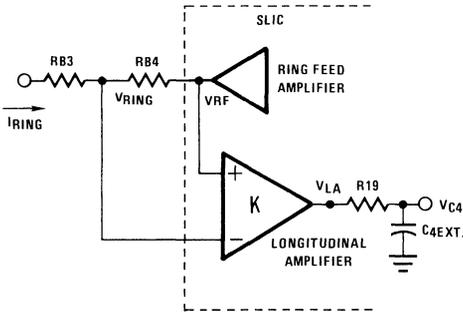

FIGURE 2.
For Case I, refer to Figures 2 and 3. In this situation the desired result is obtained, namely, that ring sync occurs during the negative peak of V_{C4} . This helps achieve ring trip faster because, once a subscriber goes off-hook, a negative DC shift is observed at V_{C4} . This shift approaches a comparator threshold in the ring trip detection circuit. If the negative peak of V_{C4} (AC) precedes the negative going DC shift at V_{C4} , one can achieve ring trip in a shorter time frame. Also this configuration allows ring trip to occur for long lines, in the order of 3000 ohms. At these line lengths, the DC negative shift will never reach the threshold because there is not enough DC current through the sense resistor, RB4. However, the negative peak of V_{C4} (AC) will cross the ring trip detector comparator threshold and ring trip will occur.